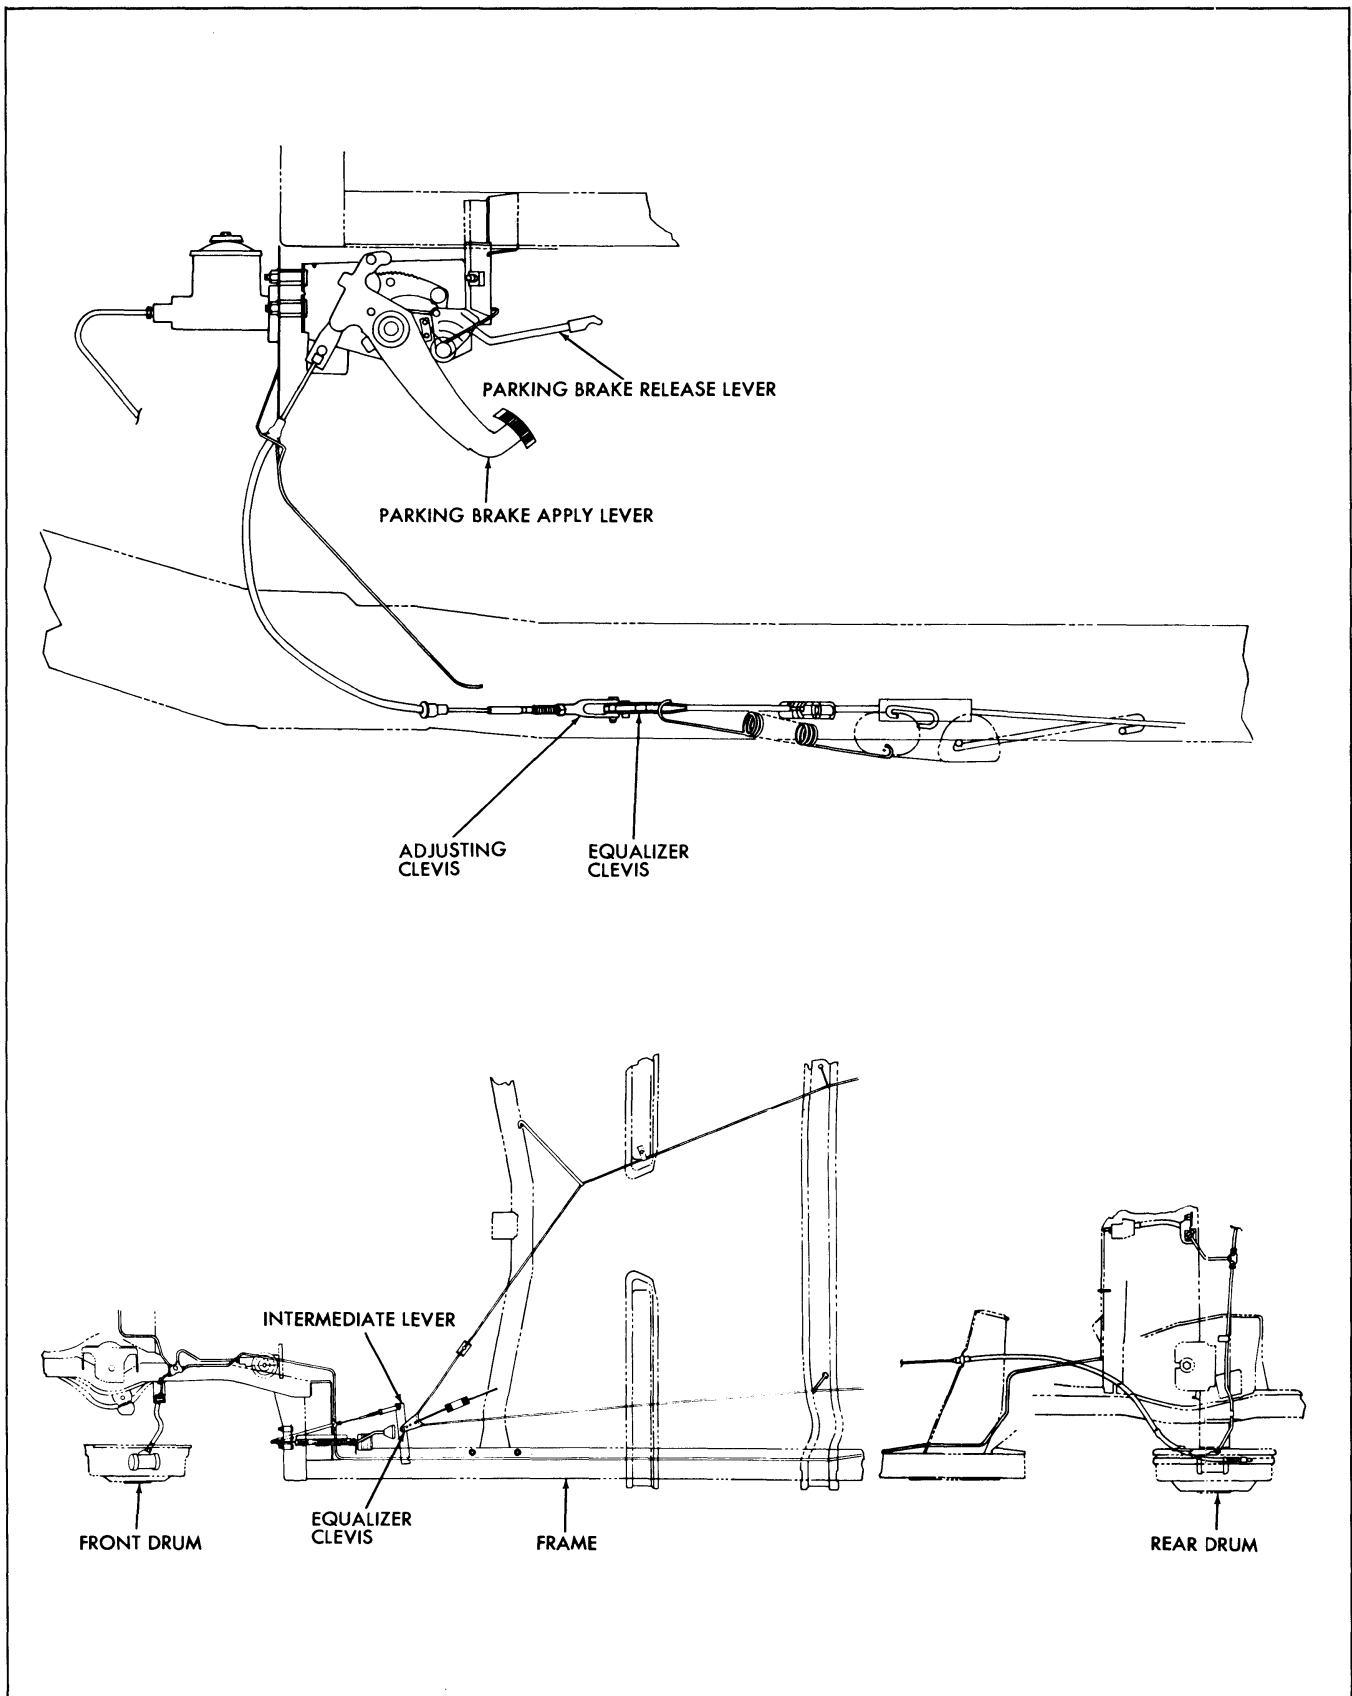

Fig. 5-5 Schematic Diagram of Parking Brake System
PARKING BRAKE (Fig. 5-5)
3. If equalization requires more than a few notches movement, retighten adjusting screw to point for proper adjustment of that brake and equalize rear cable by loosening the cable clamp screws at the equalizer clevis, and pulling downward on the tight side of the cable. It may be necessary to open the clamp with a screwdriver to allow the cable to equalize (Fig. 5-5).
5. Close adjustment for tension may be secured by adjusting the clevis at the rear end of the front cable. In adjusting here, be certain to turn clevis on or off cable end and do not twist the cable. Coarse adjustment is secured by selecting the correct hole in the equalizer (Fig. 5-5).